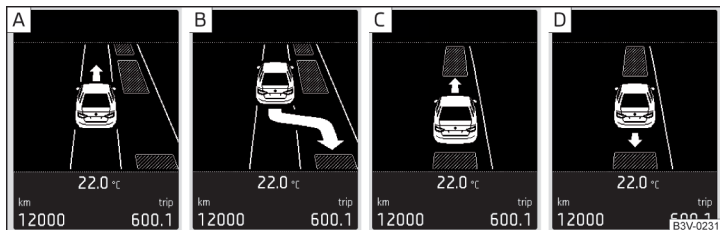
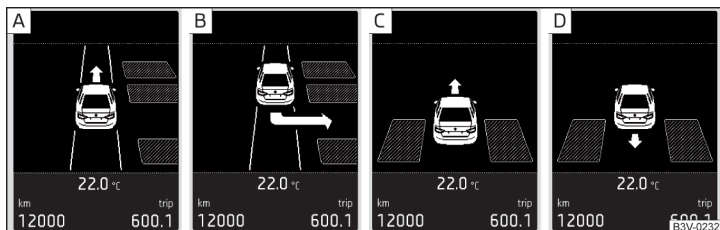

Fig. 271 To park in a parallel parking space: Display
Fig. 272 To park in a traverse parking space: Display
If the system finds a parking space, the recommended parking mode is displayed » Fig. 271 on page 227 **A** or » Fig. 272 on page 227 - **A**.
**Display view** » Fig. 271 or » Fig. 272
The parking space found is shown in the display » Fig. 271 - **A** or » Fig. 272 - **A**.